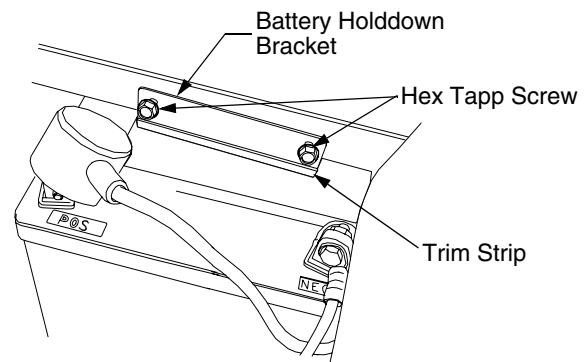

Figure 22
- Remove the two hex tapping screws from the battery holddown bracket and remove the bracket. Use care to avoid losing the trim strip from the bottom of the bracket. See Figure 22.